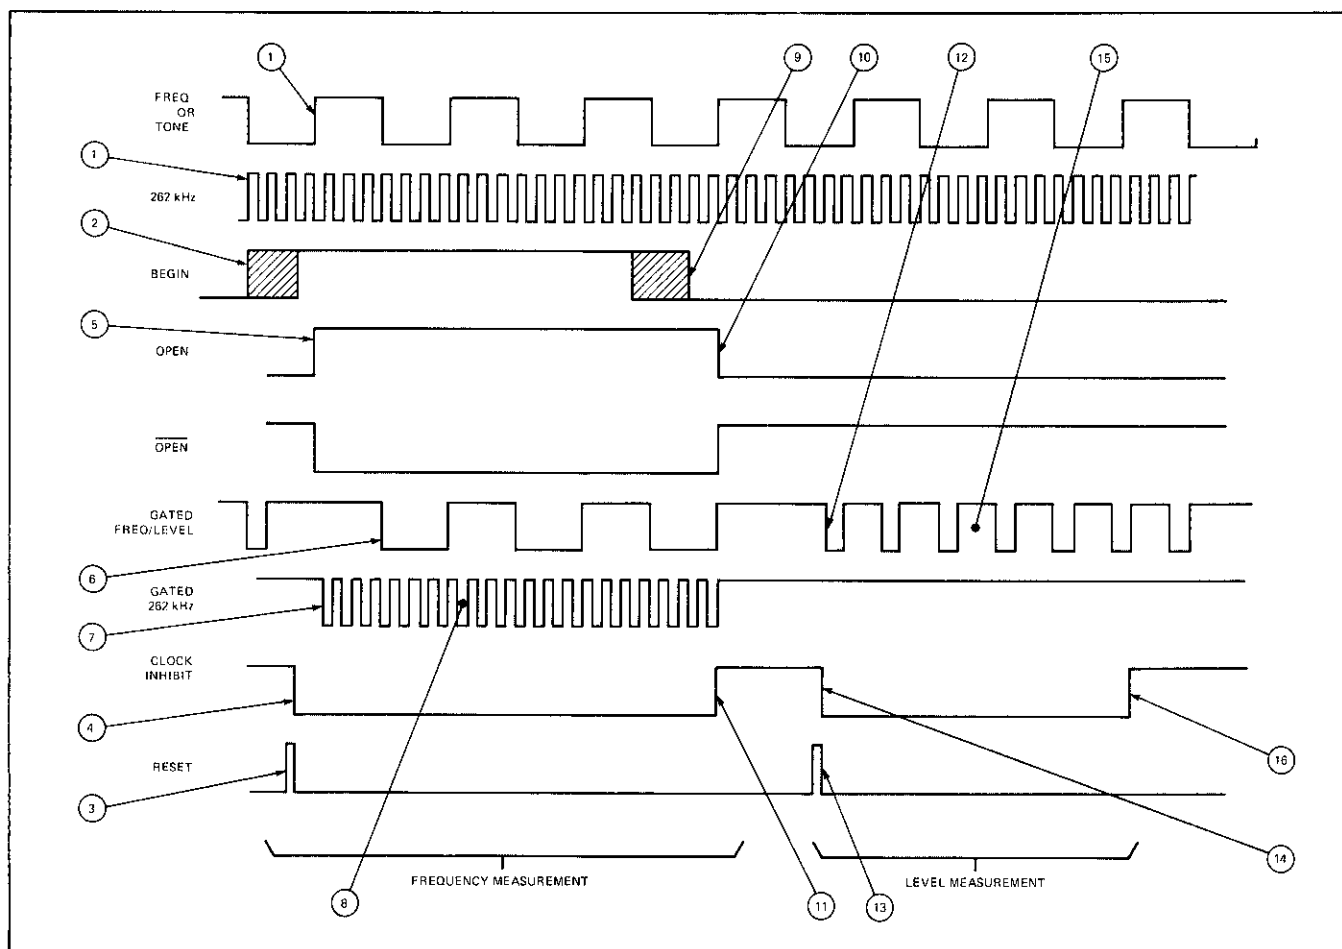

Figure 8-4. Frequency and Level Measurement Timing
8-35. Level measurement is "gated" by an internal timed loop in the microprocessor. The interval is accurately controlled by the microprocessor using the "Inhibit" command to counter no. 1 as shown in Figure 8-4 items 12 through 16.